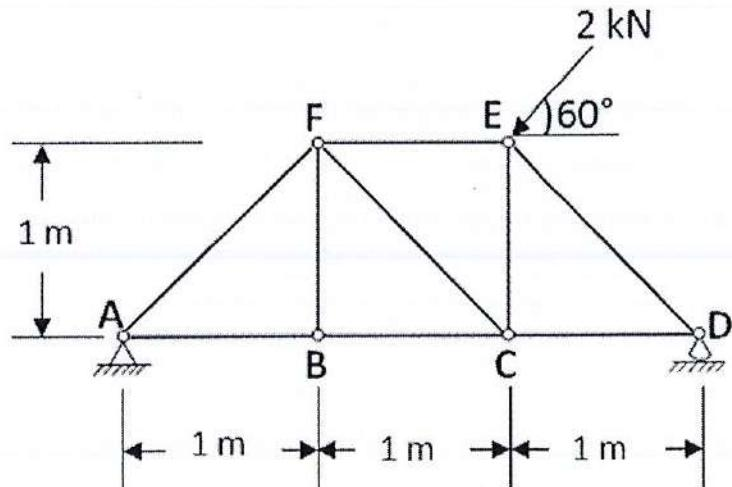

Figure 3a / Rajah 3a
- a) A structure in **Figure 3a** is supported by a pin at **A** and rocker at **D**. Load of 2 kN is applied at joint **E**. Determine the force in members **CD**, **CE** and **EF**. State either the members is in tension or compression.